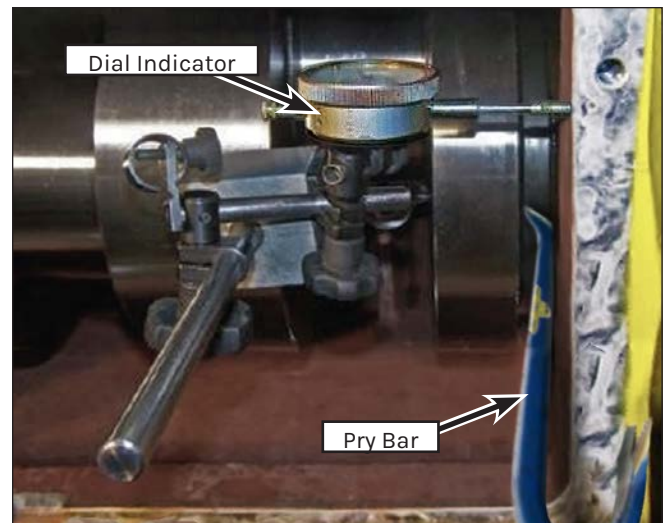

Figure 187: Dial Indicator Mounting.
13. Mount a magnetic base dial indicator on the crankshaft with the indicator pin on the inside edge of the rear opening, as shown in Figure 187.